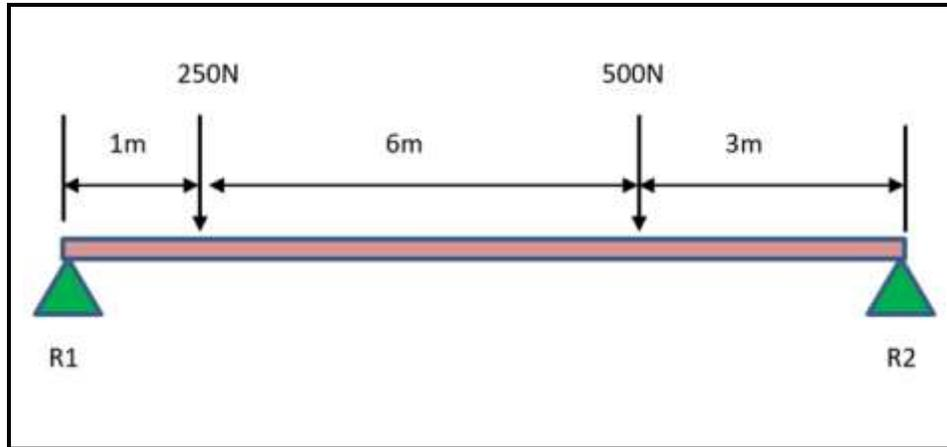

FIGURE 4.3
4.3 The beam in FIGURE 4.3 below is supported at two ends and is subjected to three point loads, 250N and 500N respectively.